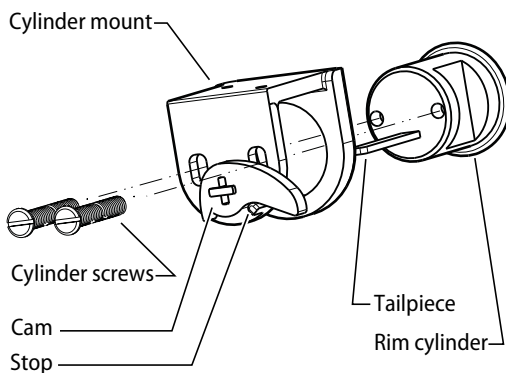

Figure 1 Assembling the cylinder mount
- 2 With the key removed, and the cam resting against the stop, install the rim cylinder through the cylinder mount, inserting the tailpiece into the cross-hair of the cam. See Figure 1.